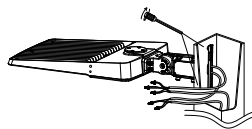

Figure 3-1-2
- Step2: Fix the fixture on the pole after passing the input wire of the fixture through the pole and then connect the input wires to the mains properly, Figure 3-1-2;